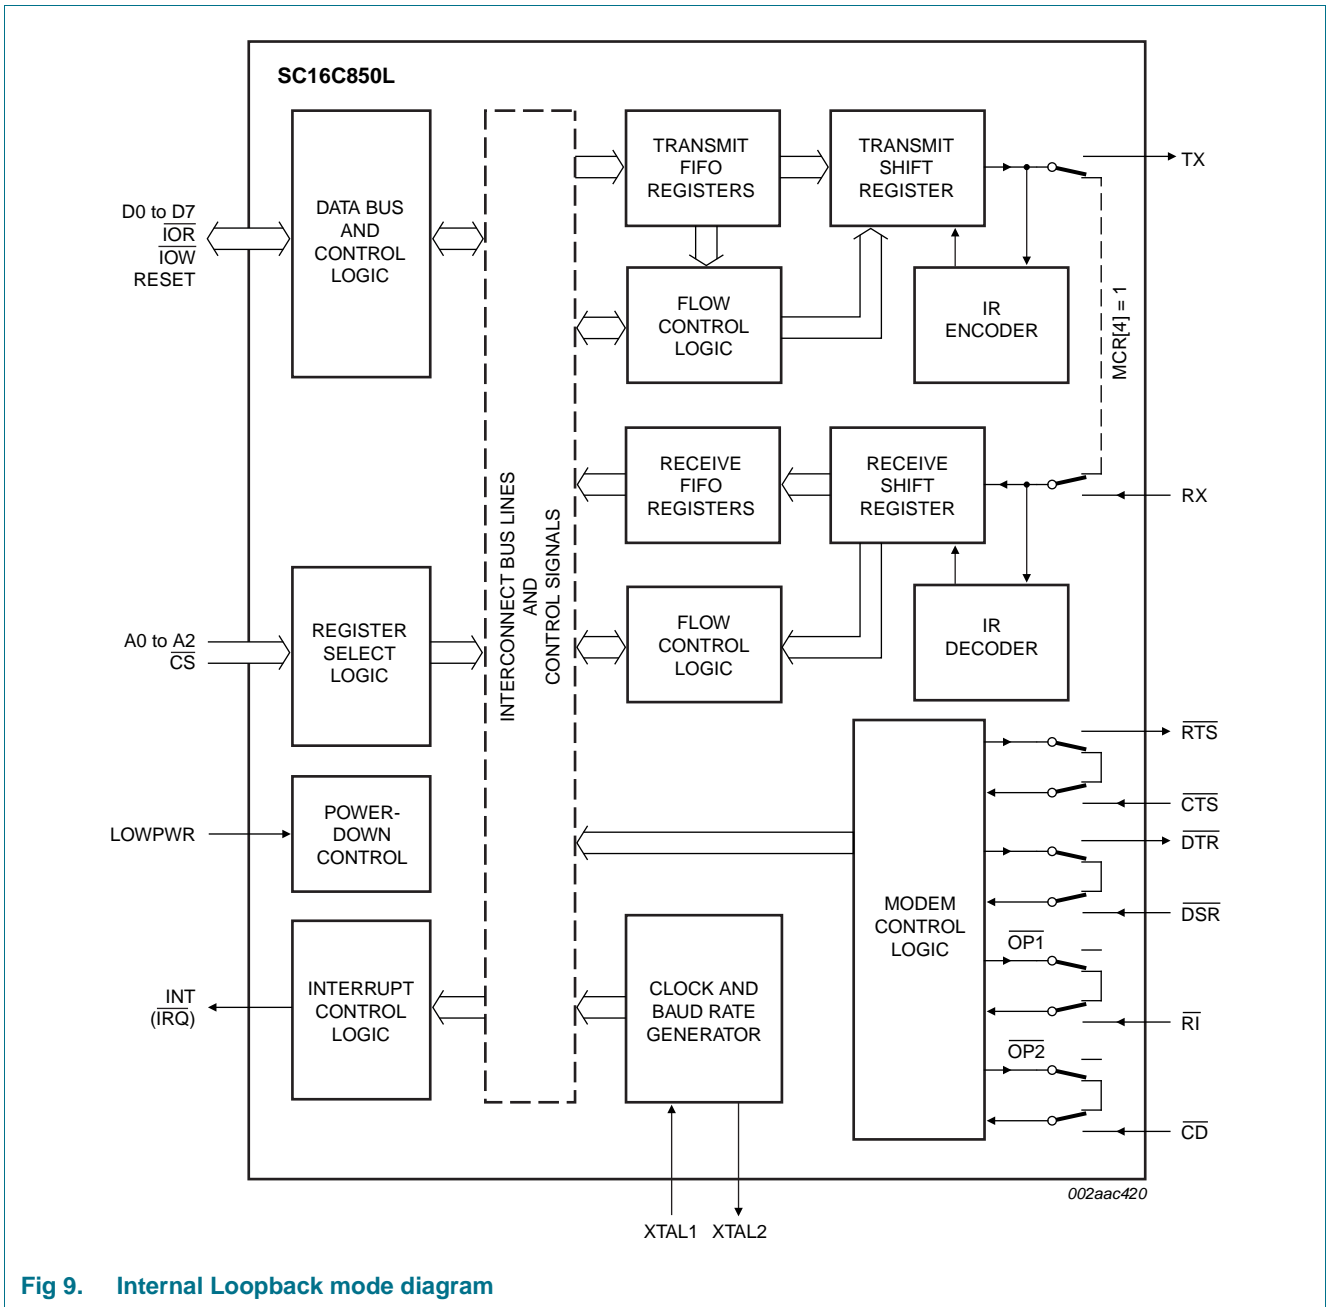

Fig 9. Internal Loopback mode diagram
The internal loopback capability allows on-board diagnostics. In the Loopback mode, the normal modem interface pins are disconnected and reconfigured for loopback internally (see Figure 9). MCR[3:0] register bits are used for controlling loopback diagnostic testing. In the Loopback mode, the transmitter output (TX) and the receiver input (RX) are disconnected from their associated interface pins, and instead are connected together internally. The $\overline{\text{CTS}}$, $\overline{\text{DSR}}$, $\overline{\text{CD}}$, and $\overline{\text{RI}}$ are disconnected from their normal modem control input pins, and instead are connected internally to $\overline{\text{RTS}}$, $\overline{\text{DTR}}$, MCR[3] ($\overline{\text{OP2}}$) and MCR[2] ($\overline{\text{OP1}}$). Loopback test data is entered into the transmit holding register via the user data bus interface, D[7:0]. The transmit UART serializes the data and passes the serial data to the receive UART via the internal loopback connection. The receive UART converts the serial data back into parallel data that is then made available at the user data interface D[7:0]. The user optionally compares the received data to the initial transmitted data for verifying error-free operation of the UART TX/RX circuits.